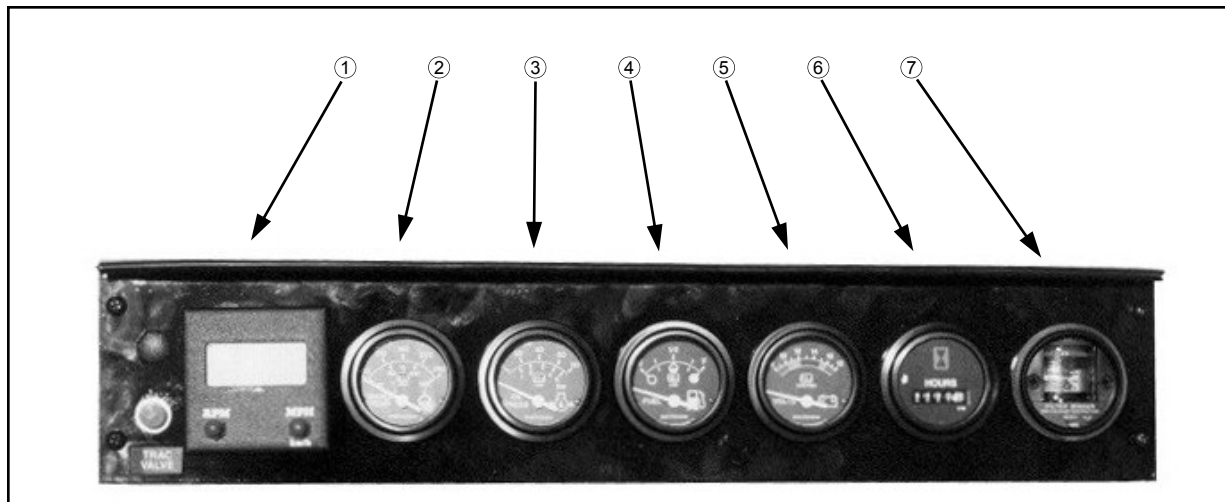

FIG 5.44
**Speedometer/Tachometer** - (fig. 5.44, item 1)
**Water Temperature** - (fig. 5.44, item 2) The water temperature gauge monitors the engine cooling system. A "RED" indicator light alerts the operator of unsafe operating temperatures.
**Engine Oil Pressure** - (fig. 5.44, item 3) The oil pressure gauge monitors pressure of the engine lubricating system. A "RED" indicator light alerts the operator of low level operation.
**Fuel Gauge** - (fig. 5.44, item 4) The fuel gauge measures the amount of fuel in either fuel tank, depending on the tank selected with the fuel switch. A "YELLOW" indicator light alerts operator of low level operation.
**Volt Meter** - (fig. 5.44, item 5) The volt meter measures voltage from the alternator on the diesel engine. A "RED" indicator light will alert the operator if the system is operating either too low or too high.
**Hour Meter** - (fig. 5.44, item 6) The hour meter progressively records elapsed time of detasseler operation. It is useful for determining service intervals.
**Filter Minder (diesel only)** - (fig. 5.44, item 7) See page 88 for information regarding the air filter monitoring system.